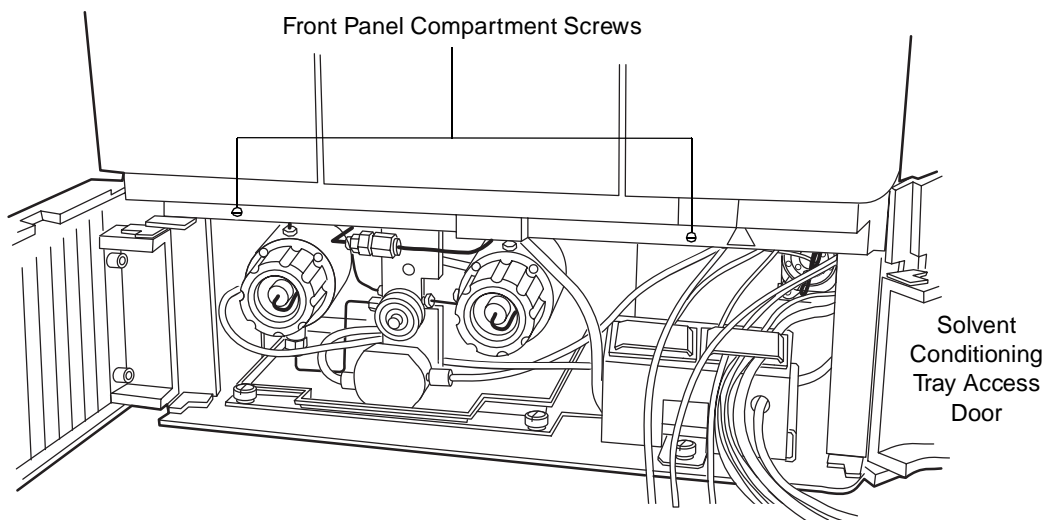
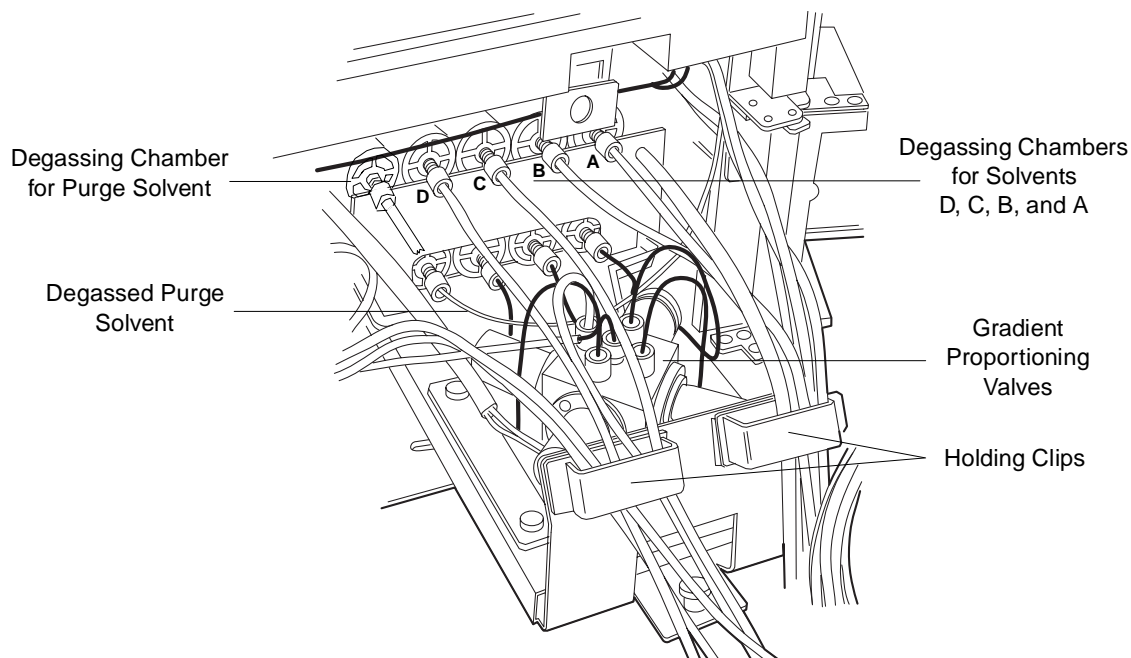

Figure 2-7 Solvent Conditioning Tray Compartment
Figure 2-8 Degasser and Gradient Proportioning Valves
1. Uncoil the solvent tubes stored behind the solvent conditioning tray access door (Figure 2-7).
2. Unclip the tubing clips and install the tubing in the two holding clips. Close the clips to secure the tubing (Figure 2-8).
The tubing connecting the 2795 Separations Module to the solvent reservoirs is stored behind the solvent conditioning tray access door on the front panel (Figure 2-7). One end of each solvent tube is connected (at the factory) to the inline vacuum degasser which is connected to the GPV (Figure 2-8).
The spill tray waste outlet is located under the front panel of the 2795 Separations Module, below the solvent conditioning tray access door (Figure 2-7).
The tubing for the wash reservoirs is located behind the solvent conditioning tray access door on the front panel (see Figure 2-7). Each wash tube is labeled and/or color-coded as indicated in Table 2-4. The plunger-seal-wash inlet tube has a diffuser attached to one end.